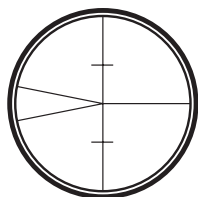

Fig. 3
1. **Focus the cross hairs** (Fig. 3) by pointing the telescope towards a bright background or holding a white sheet of paper in front of the objective lens, then turning the eyepiece until the cross hairs are sharp and black.